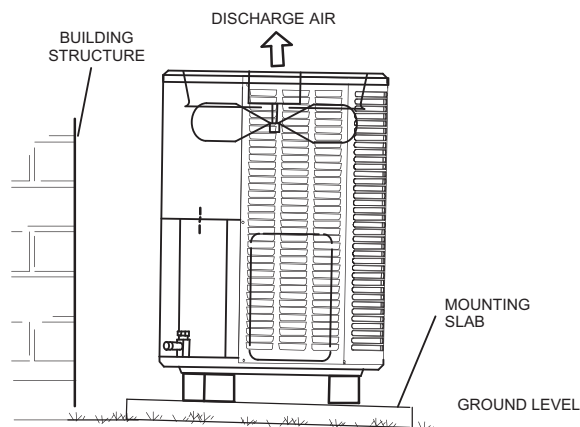

FIGURE 3. Placement and Slab Mounting
- When possible, do not install the unit directly outside a window. Glass has a very high level of sound transmission. For proper placement of unit in relation to a window see the provided illustration in figure 3, detail A.
When installing unit at grade level, the top of the slab should be high enough above grade so that water from higher ground will not collect around the unit. The slab should have a slope tolerance as described in figure 3, detail B.